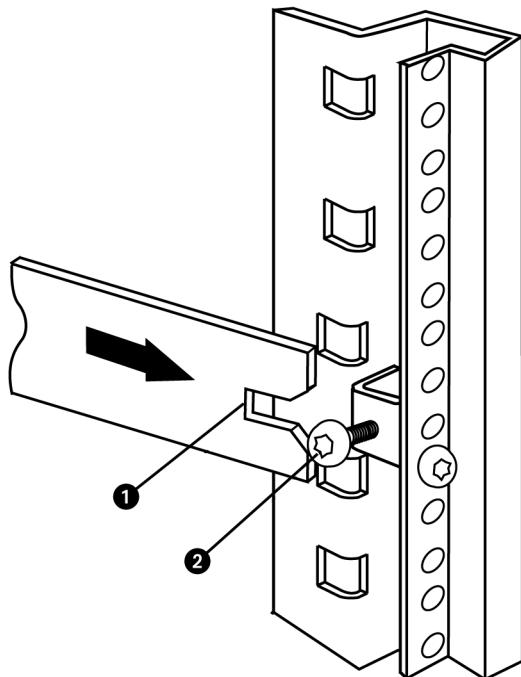
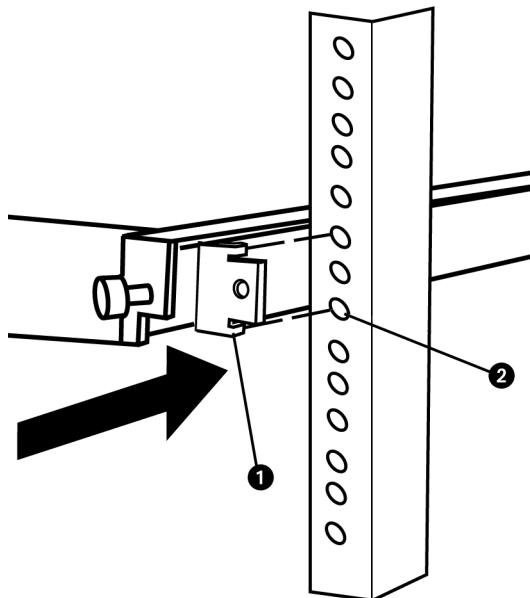

Figure 27 Positioning the sliding shelf bracket on a rail rear slot
Figure 28 Positioning the sliding shelf bracket at the rack front
6. Insert the shelf into the rack so that both rail rear slots (1) slide over the loose screws (2) on the inside face of each bracket (Figure 27).
7. Make sure that the sliding shelf and rails are horizontal (Figure 28) at the rack front.
8. Push each of the rail front tabs (1) into the corresponding holes on the rack columns (2).
- At the back of the rack, tighten the screws that attach the sliding shelf rails to the mounting brackets (Figure 27 ②).